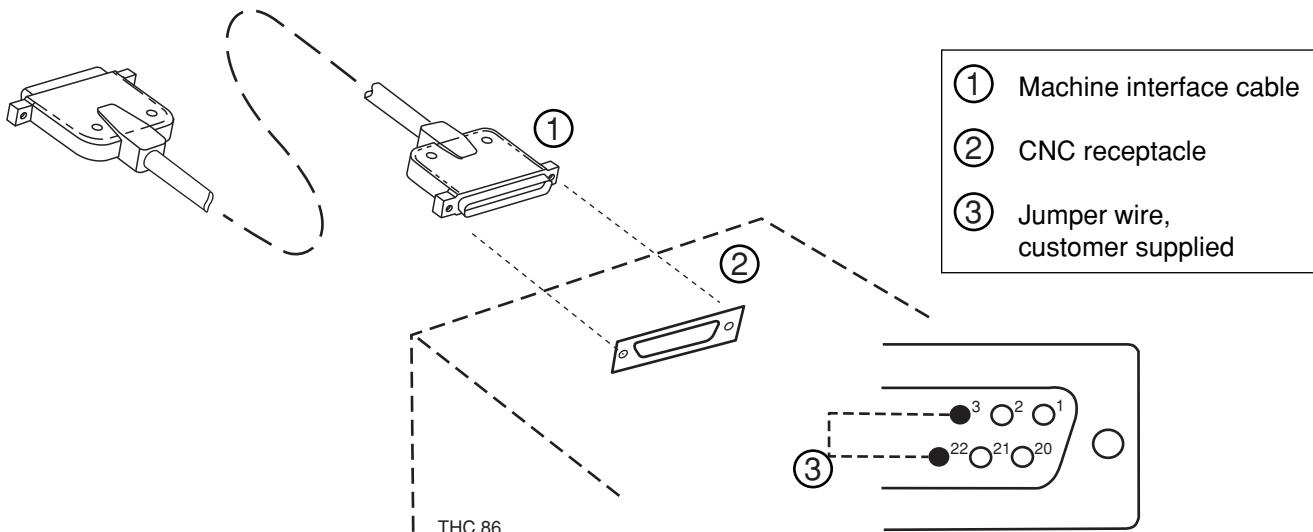

Figure 3-6 CNC cable-installed signal
1. Cable-installed signal - See Figure 3-6.